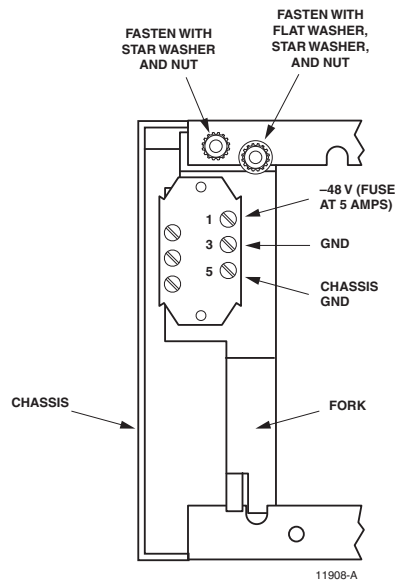

Figure 7-2. DC Power Interface Bracket Installed in Chassis
4. Position the Power Interface Bracket at the back left end of the chassis, as shown in Figure 7-2. The left stud on the bracket will extend through the corresponding hole in the upper chassis lip. The right stud will be positioned in the U" shaped slot in the upper chassis lip. The fork" at the bottom of the bracket should be positioned with one leg inside the lip on the lower part of the chassis and the other leg outside the lip.